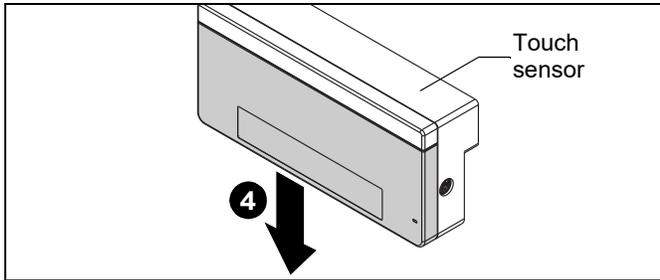

Figure 28
4. Remove and keep touch sensor cover. (See Figure 28)